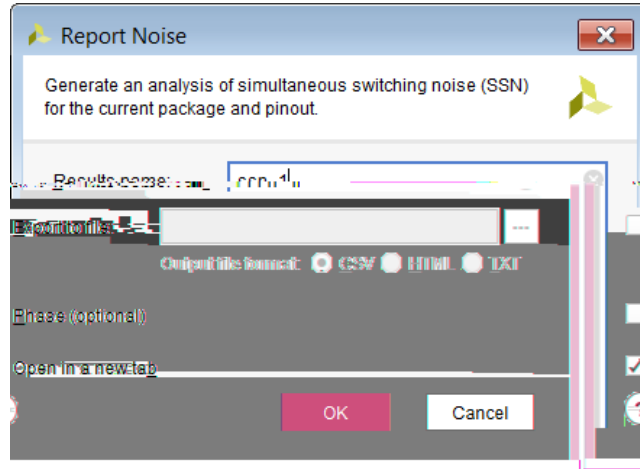

Figure 6-4: Report Noise Dialog Box
2. In the Report Noise dialog box (Figure 6-4), set the following options, and click **OK**.